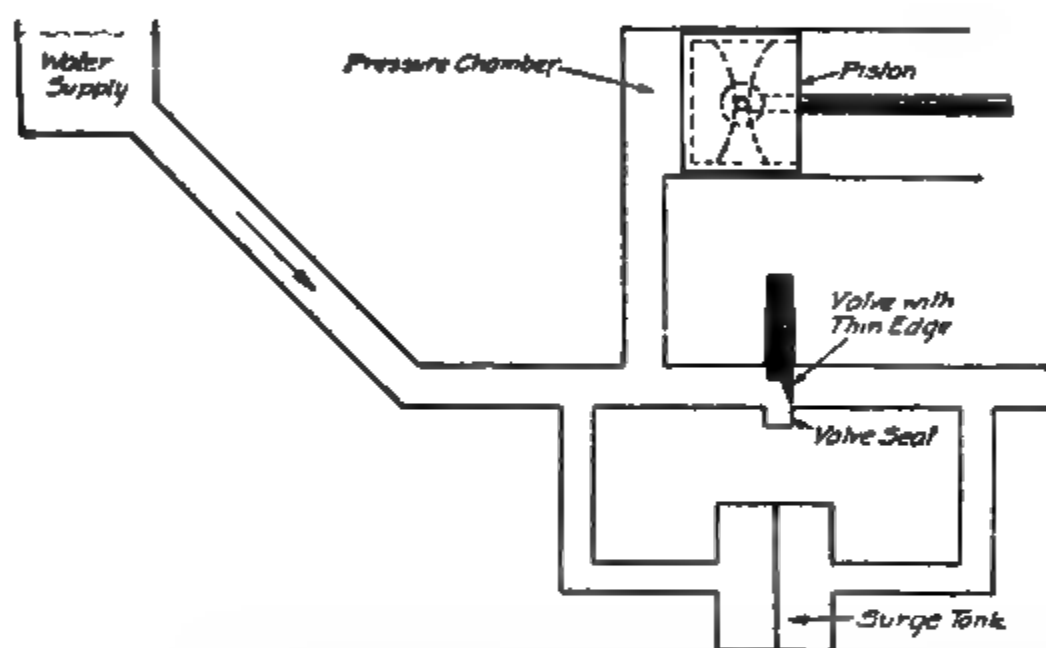

Fig. 61 Diagram Showing Hydraulic Analogy of Ignition System
In the hydraulic system, it takes the form of a surge chamber, as shown in Fig. 61. This chamber has an elastic diaphragm centrally placed in it, and the chamber itself is shunted, or connected, around the valve in the same manner as the condenser is connected to the contact points. When the valve begins to close, this surge chamber relieves the pressure to some extent during the operation of closing the valve and so protects the thin edge of the valve from bending. After the valve is fully closed, there is, of course, no further danger of its being bent over. In the electrical system, the condenser supplies similar protection, reducing the voltage at the timer contacts at the moment of separation and keeping this voltage reduced until they are fully open, thus preventing the current from bridging the gap, or *arcing*. Once the contacts are fully separated, the low-tension current cannot jump the air gap, so that there is no further danger of their burning.
*Transformer.* In order to utilize the pressure produced by the sudden closing of the valve, it is necessary to provide some transforming device, such as a pressure chamber. This is illustrated in Fig. 61, and it will be noted that it is of a much larger diameter than the pipe. As the pressure in the chamber and the pressure in the pipe will both have some unit value (measured in pounds per square inch), the total pressure on the piston will be to the pressure in the pipe as the area of the piston is to the area of the pipe. By the use of a pressure chamber of large diameter, compared to that of the pipe, a very considerable force is applied to the piston, but the